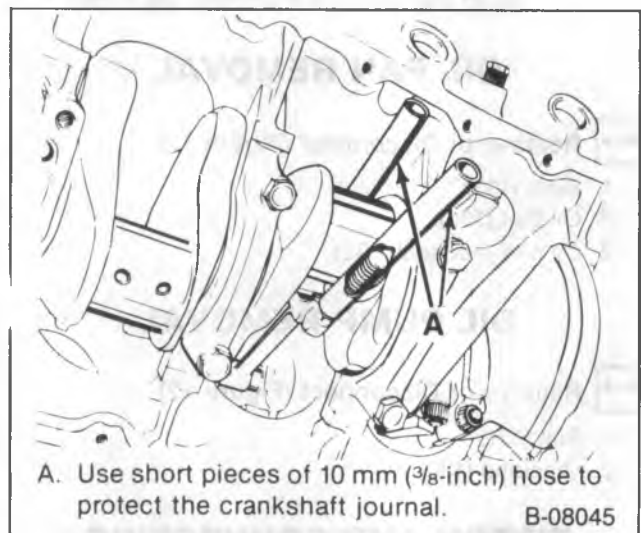

Figure 14—Removing the Piston and Connecting Rod
- Attach two short pieces of 10 mm (3/8-inch) hose to the connecting rod bolts (figure 14). This will protect the crankshaft journal during removal.